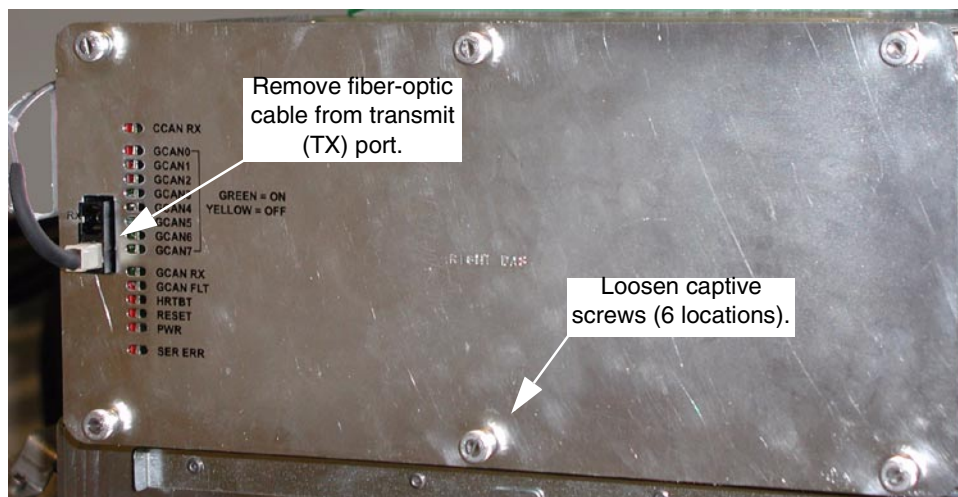

Figure 2 - DAS Chassis Cover, right chassis shown
- 8.) Remove DAS Chassis covers. Take care not to damage the fiber optic cable on the right chassis connected to the DCB board. See Figure 2 on page 6.